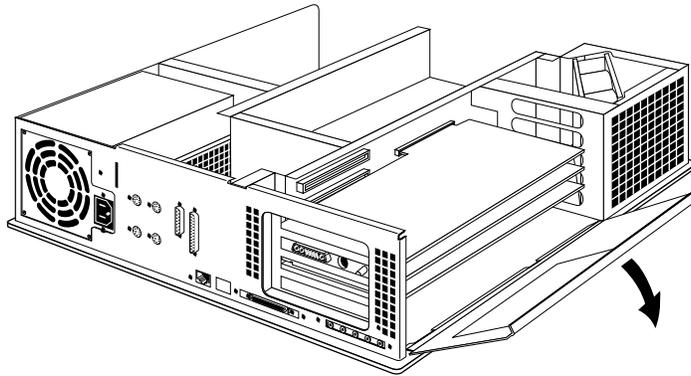

Figure 2-5 Opening the Metal Panel in Front of the ISA Slots
3. Open the metal panel located in front of the ISA slots by pulling up on the door and lowering it, as shown in Figure 2-5.